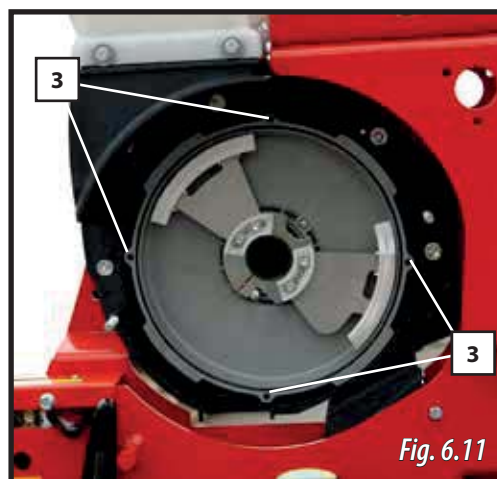

Fig. 6.11
- 3- The seed disc is secured magnetically. Use both hands to pull the disc to remove it. Once it has been removed, the vacuum chamber of the metering box will be visible (Fig. 6.11).
**IMPORTANT:** fit the tips of the seed disc's reverse into the holes of the metering box's vacuum chamber (3, Fig. 6.11).